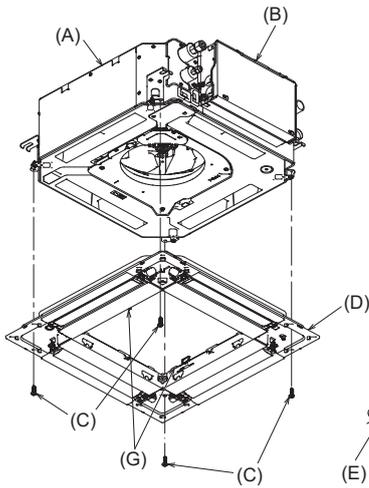

Fig. 6-7
- Secure the grille by tightening the four screws. (Fig. 6-7)